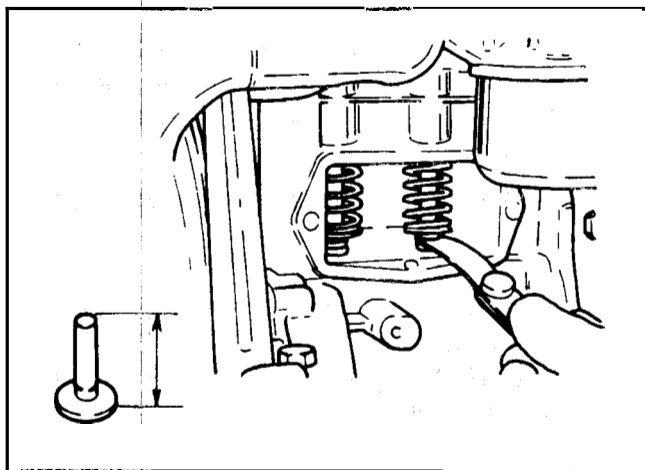

Figure 6
8. Measure the valve clearance with the engine cold and on top dead center (TDC) of the compression stroke. See Figure 6.